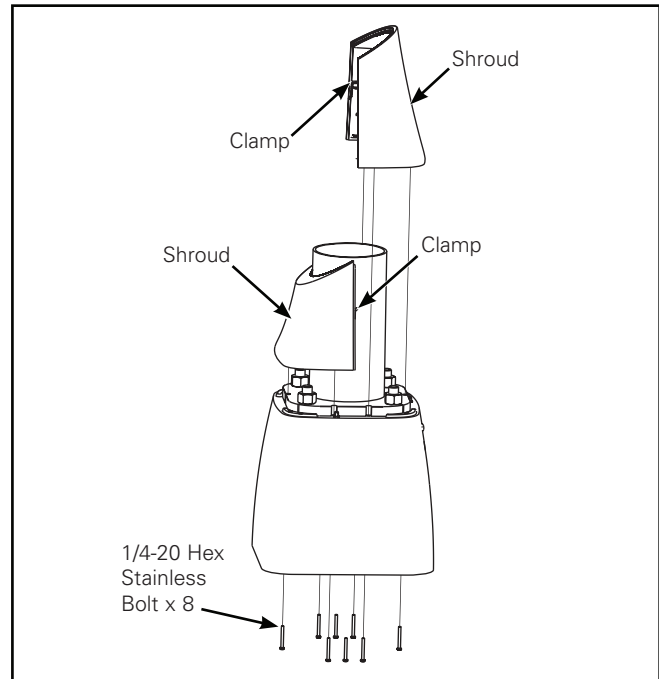

Figure 2. Shroud Mount Detail
2. Install the ground strap at the bottom inside of the pole using the screw provided and let it hang into the transformer base opening. (Figure 2.)